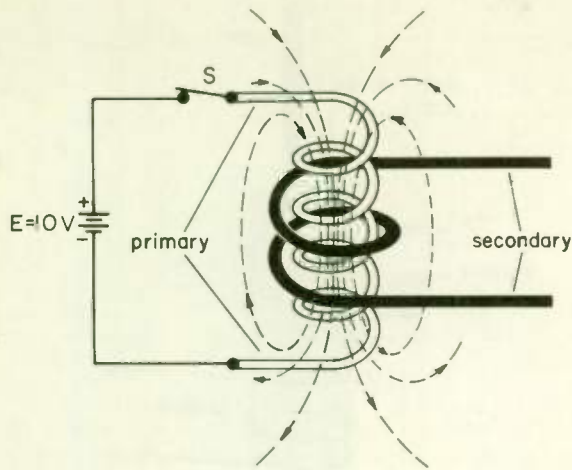

Fig. 24
1. Figure 24 shows two coils wound one on top of the other on the same form. When the switch S is closed, a voltage (a) *(will) (will not)* be induced into the secondary. This is because (b) *(the primary shields the secondary from the magnetic flux, so that no voltage can be induced) (the lines of force threading the secondary are increasing)*.
2. Refer again to Fig. 24. Current has been flowing through the primary for several minutes. Is there a voltage being induced into the secondary? (a) *(yes)(no)* Why? _____. If switch S is opened, will there be a voltage induced in the secondary? (b) *(yes)(no)* Why? _____